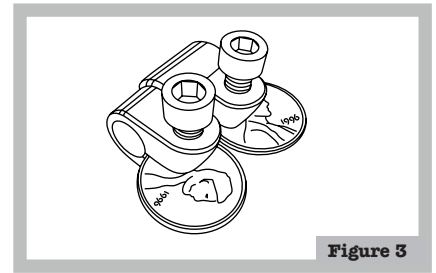

Figure 3
3. If you have difficulty installing the clamps, you can use the “penny trick”: (a) thread any of the M5 bolts into the threaded holes of the clamp (b) insert thin coins partially into the clamp slot (c) use 4mm hex key to slowly tighten the bolts against the coins until the clamp spreads enough to allow its installation (Figure 3).